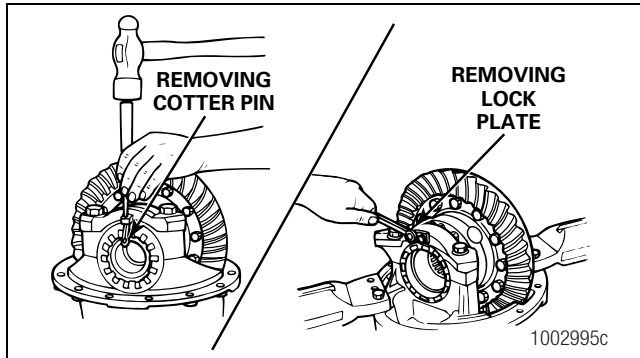

Figure 3.13
5. Remove the capscrews, cotter pins, roll pins or lock plates, if equipped, that hold the bearing adjusting rings in position. Use a small drift and hammer to remove the pins. Each lock plate is held in position by two capscrews. Figure 3.13.